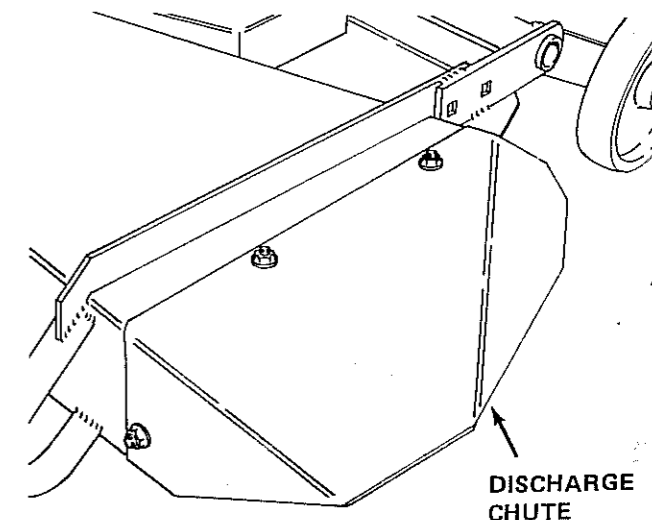

FIGURE 13
4. Important for N40, N44 and N46 mowers: Install the discharge chute with three bolts as shown in Figure 13.